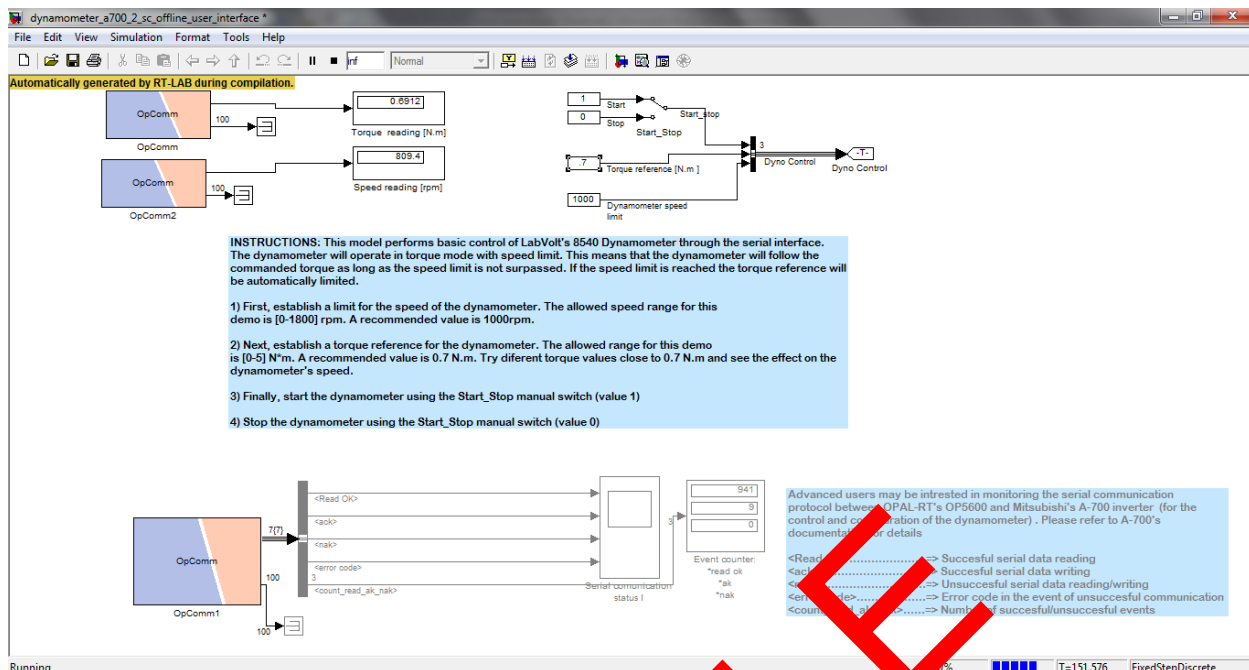

Figure 5.2 Console for the “Dynamometer\_A700\_v2\_1.mdl” demo as the model runs and the 8540 operates in torque mode.
6.- Figure 5.2 presents the SIMULINK console generated by RT-LAB while executing *Dynamometer\_A700\_v2\_1.mdl*. If necessary, resize the console through *View/Fit System To View*. Follow the onscreen instructions to start the dynamometer (Figure 5.2):